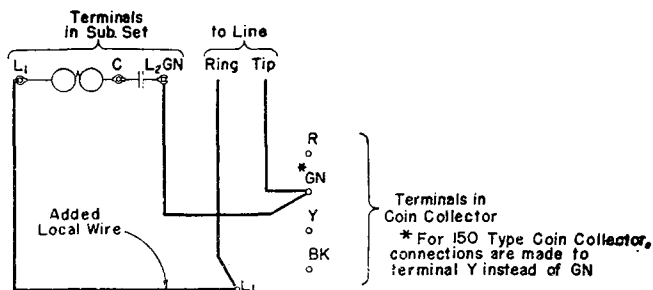
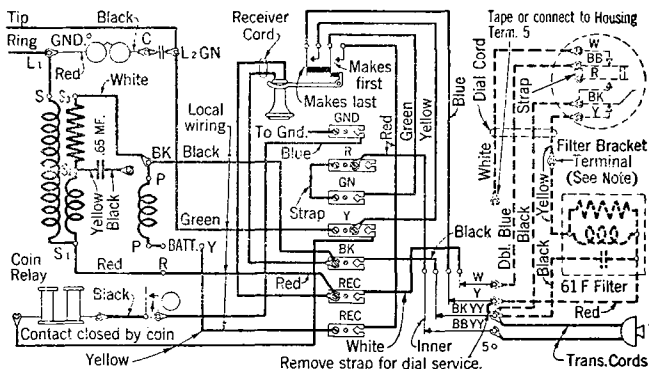

Fig. 9—50, 150 and 161-Type Coin Collectors Equipped with L₁ Terminal—(L.B.T.-C.B.S. Stations)
Fig. 10—150G or H and 161A or B Coin Collectors—Shown with 634Y Subscriber Set—For Manual or Dial Anti-Sidetone Stations
3.01 Prepayment coin collectors shall be used at local battery talking, common battery signaling stations only when satisfactory relay operation can be assured. **The 634YD subscriber set is recommended for new installations unless otherwise specified on the service order or other local instructions. Fig. 12 is shown for maintenance use only. Note that Fig. 10 requires a readjustment of the switchhook contact springs and that Figs. 10 and 11 require some wiring changes in the coin collector.**
3.02 When coin collectors are equipped with L_1 terminals the line wires (Tip and Ring) shall be connected directly to the coin collectors as indicated in Fig. 9 instead of to the subscriber sets as shown in Figs. 10, 11 and 12, unless local instructions state otherwise. Other connections are the same as shown in Figs. 10, 11 and 12.
3.03 The coin collectors shown in Figs. 10 and 11 may be used with 634Y or 634YD sets. If the coin collector used has a 706A receiver or a 37A varistor, the 634YD set should be used. When a 150G, 150H, 161A or 161B coin collector (shown in Fig. 10) is installed with a 634YD set, a 37A varistor shall be connected across the receiver terminals in the same manner as shown in Fig. 5, and when a 161C or 161D coin collector (shown in Fig. 11) is installed with a 634Y set, the varistor should be omitted. Fig. 10 shows the 634Y set with a 113D induction coil and Fig. 11 shows the 634YD set with a 104A induction coil. Either type of set may come equipped with either coil but the coils are not interchangeable in the field. The corresponding terminals of the two coils are as follows: